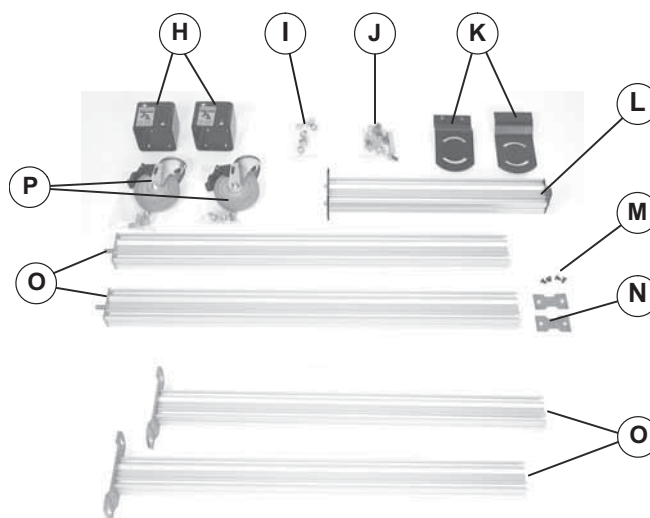
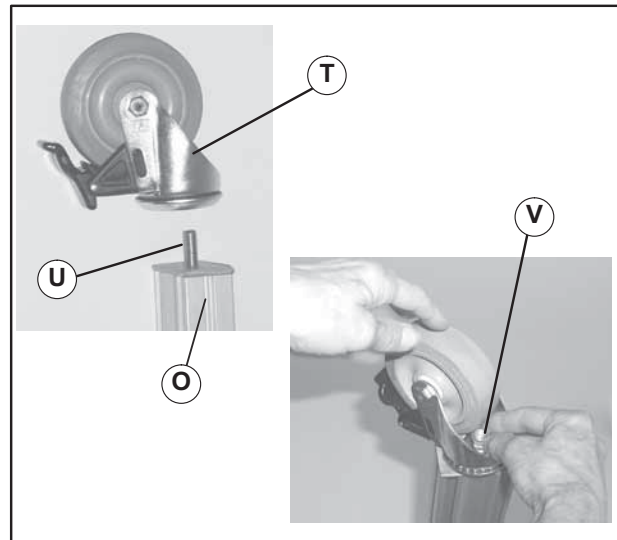
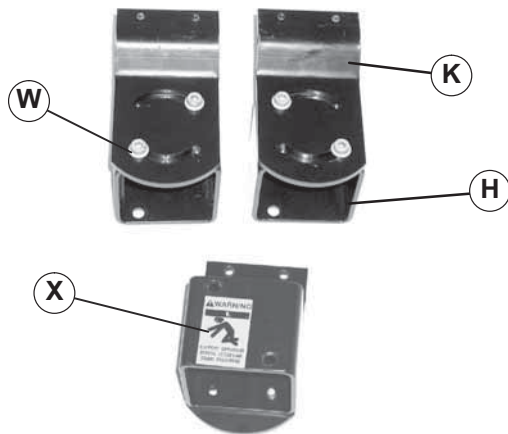

Figure 2
Figure 6
Figure 8
1. Typical components (Figure 2).
2. Open crossmember hardware pack (Figure 2, item I).
Caster Kit (Figure 2, item P) Components:
- Open caster kit (Figure 2, item P). Install caster (Figure 6, item T) over bolt (U). Bolt is pre-assembled on stand leg (O). Secure caster with lock nut (V).
- Open fully adjustable stand hardware pack (Figure 2, item J). Attach pivot bracket (Figure 8, item K) to leg support (H) with two flange socket head screws (W). Do not tighten screws.
19. Tighten four flange socket head screws (Figure 8, item W) to 24 ft-lb (33 N-m).